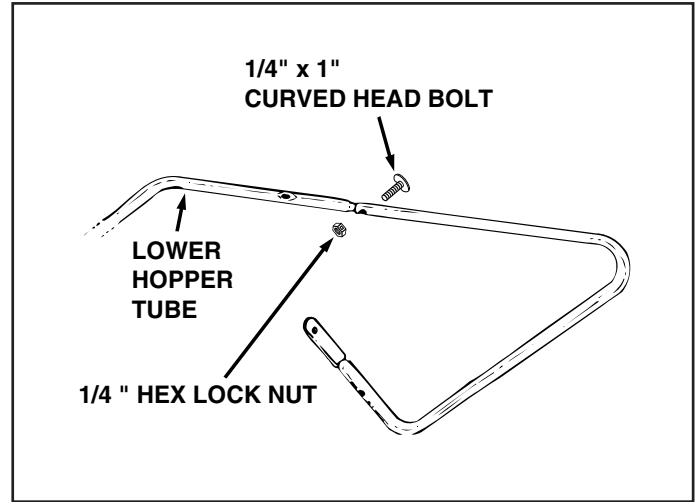

FIGURE 10
4. Assemble the two lower hopper tubes together using a 1/4" x 1" curved head bolt and a 1/4" hex lock nut. See figure 10.